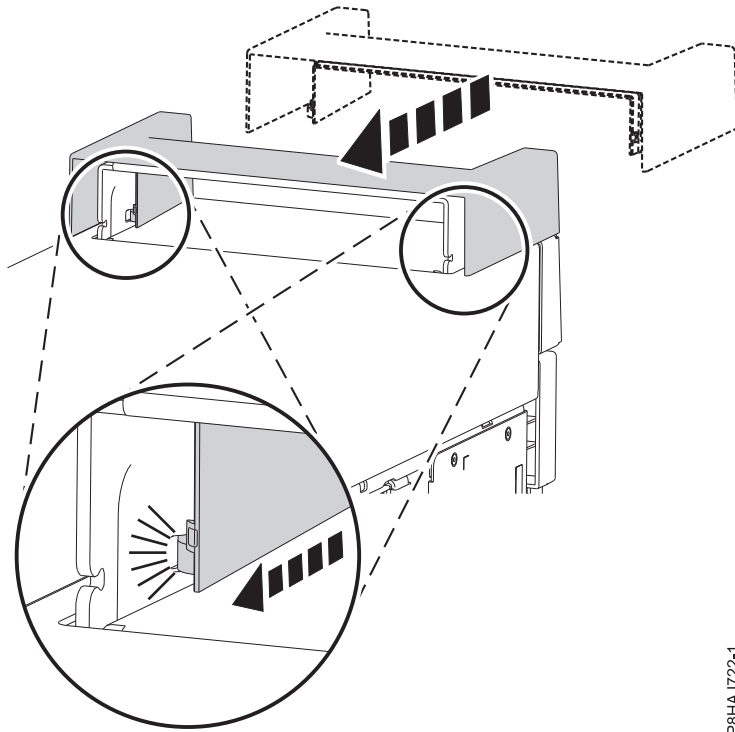

Figure 18. Securing the handle cover in an 8286-41A stand-alone system
1. Secure the handle cover to the internal RDX docking station (FC EUA3) by sliding it toward the rear of the system. See Figure 18.